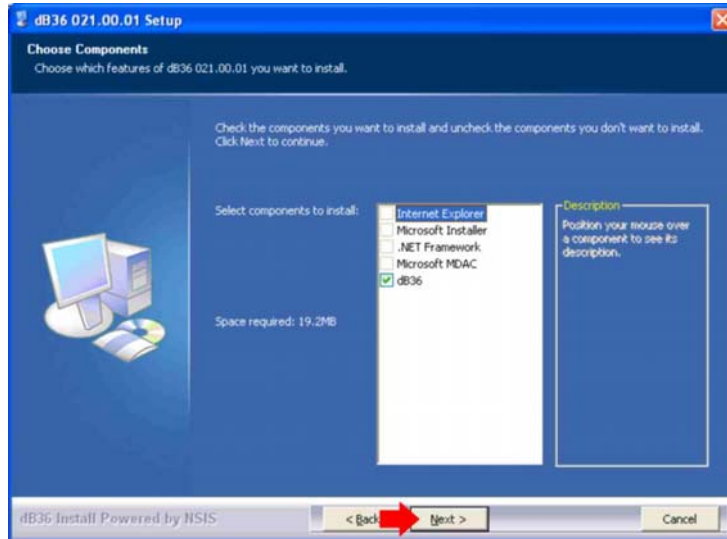

Figure 2 Required Components
8. The dB36 installer will check the PC for any required components that are missing or out of date. It will then show a list of Components that must be installed. Refer to Figure 2. To see the description of each item, pass the cursor over the list of Components and read the text in the Description box. Select the Components and click **Next**.